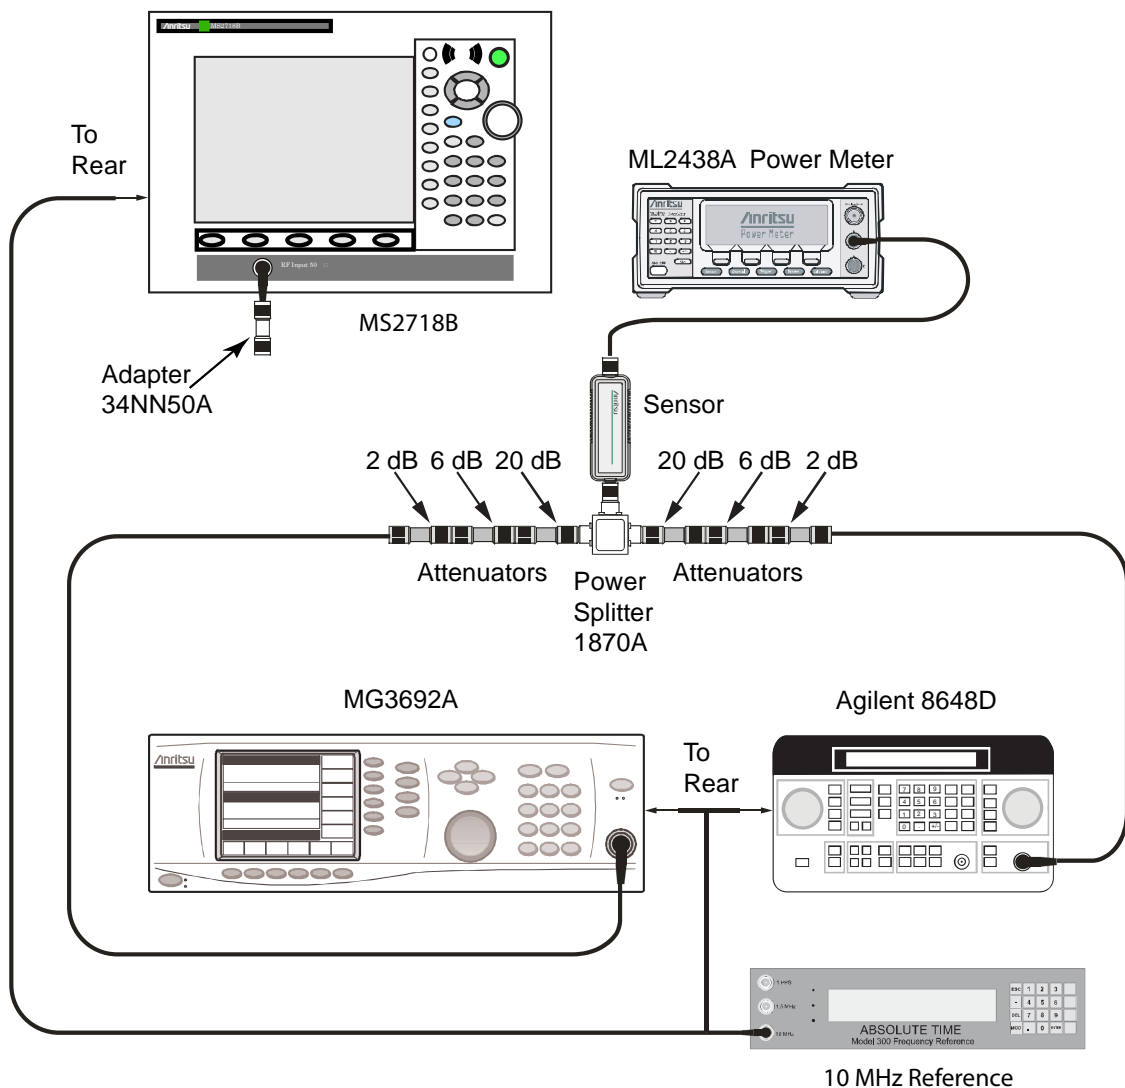

Figure 2-1. Third Order Intercept Verification (2400 MHz) Setup
1. Connect the equipment as shown in Figure 2-1. The splitter will be used as an RF combiner (the normal RF outputs will become inputs, and the normal input will become the RF output).